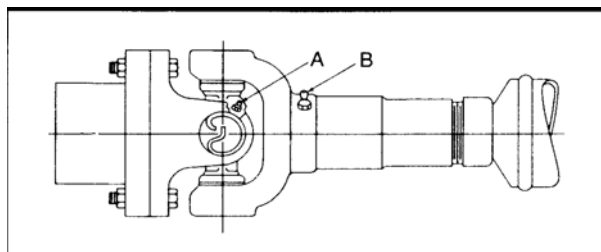

Figure 9
3.1.1 Using the proper NLGI Grade 2 lubricant, purge all four bearing seals of the universal joint. Pressure fill universal joint through fitting "A" in Figure 9. This flushes contaminants from each bearing assembly and assures all four are filled completely.